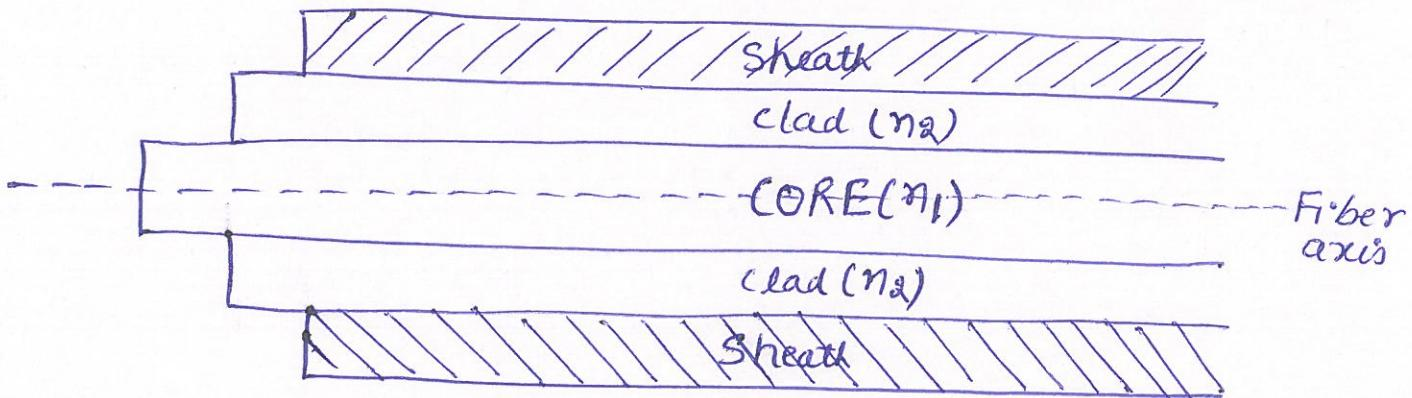
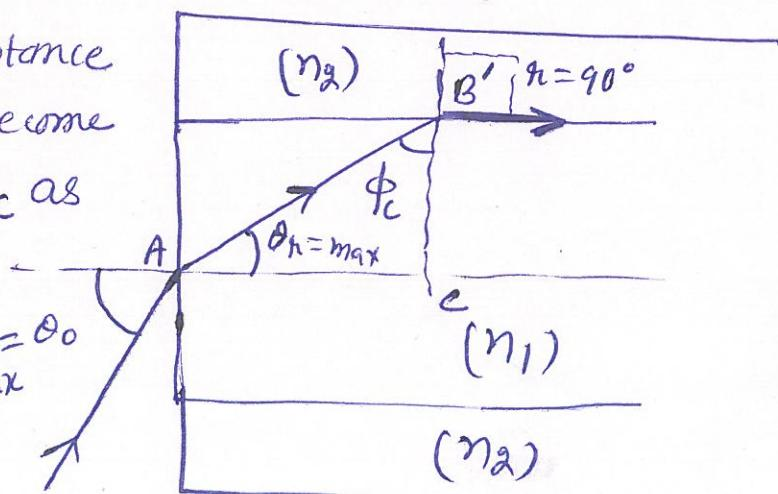

Fig. 1
Fig 2.
to another! The basic diagram of an optical fiber is shown in figure 1 above. It contains three co-axial cylindrical layers known as core, clad and sheath (or buffer jacket).
Consider an arbitrary ray of light make angle  $\theta_i$  with axis of optical fiber, at input as shown in Fig 1. On entering the
Since ray of light shown in fig 1. arbitrary, therefore by increasing its value, we may reach maximum value of  $\theta_i$  denoted by symbol  $\theta_o$ , called acceptance angle, for which  $\phi$  will become minimum, that is  $\phi_c$  as shown in fig 2.
In Fig. 1. shown here, three rays of light are entering in optical fiber such that all are parallel to each other. All these three rays travel along ~~parallel~~ identical paths,
In the previous article, fiber shown in fig.1 is a SMF, because all three rays of light are entering in fiber at same angle with respect to axis. In general number of rays in SMF can be infinitely large, but all of these will enter in fiber as a beam of parallel rays.
In fig.2. of previous article, two modes of light are propagating because there are two distinct angles, at which rays of light are entering in the fiber. Thus fiber shown in this figure is MMF. Note that in MMF, the total number of modes can be very large instead of just two as shown in fig.2.
total number of distinct angles made by rays of light with axis at the input of fiber. It is also clear from fig. 1 & fig. 2. of previous article that chances of interference between light rays (waves actually) during propagation are very ~~to~~ large in MMF. During interference, the information being carried out by these light waves may be lost or may get distorted. Larger is the distance travelled in fiber, more will be chances of loss of ~~int~~ information due to interference.
Figure 1. Shown below gives variation of refractive index of fiber as a function of distance ( $r$ ) from the axis of fiber. Such a graph is called index profile of fibers.
6. Since speed of all light rays is same (because of single frequency of carrier) and path length of rays is different for different angles/paths, therefore different rays of light take different time ( $\therefore \text{time} = \frac{\text{distance}}{\text{speed}}$  or time  $\propto$  distance as speed = constant) to come out of fiber, although all these rays have entered in fiber at the same time. Since rays are carrying identical information (for all rays in figure given on page 13, we have information of letter A, followed by B and then C), therefore at the output all information packets belonging to a unique information will not be received at single instant of time, rather it will spread on small time interval (denoted by  $T_{\text{int}}$  or  $\Delta t_{\text{int}}$ ), which is called intermodal dispersion delay or transition time dispersion delay (for example according to fig 2 on page 13 of notes, first ray to reach output will be (0), followed by rays (1) & (2) and information packet of A will be received when ray (0) reaches at output at time  $t_0=0$ , and information of A again reach at time  $t_2$  when ray 2 reaches output, followed by another